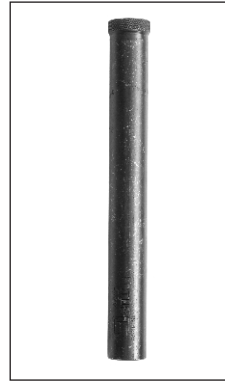

Fig. 1.13A
9. Tool cone bottom installer - N931 013 0 (Fig. 1.13A)